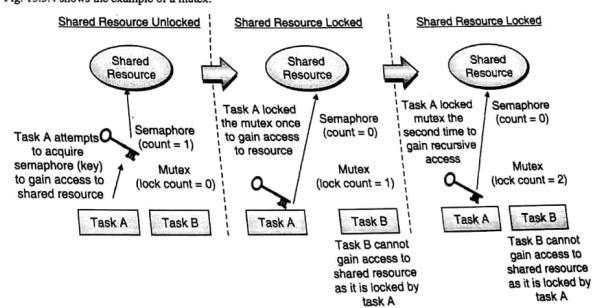

Fig. 13.5.4 : Mutex
- Fig. 13.5.4 shows the example of a mutex.
- In the Fig. 13.5.4, the task 'A' has multiple lock counts and the semaphore once acquired by task 'A' cannot be acquired by any other task.